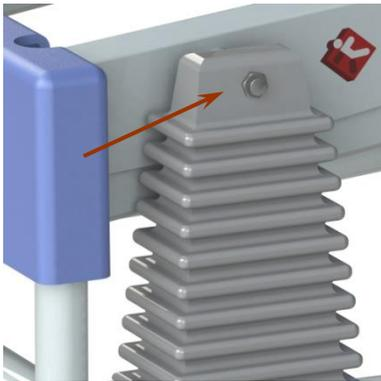

Figure 1 Bellow
1. Put the chair in a high position. Pull the bellows from the lever pin and slide them around the pump shaft. (See figure 1 Bellow)